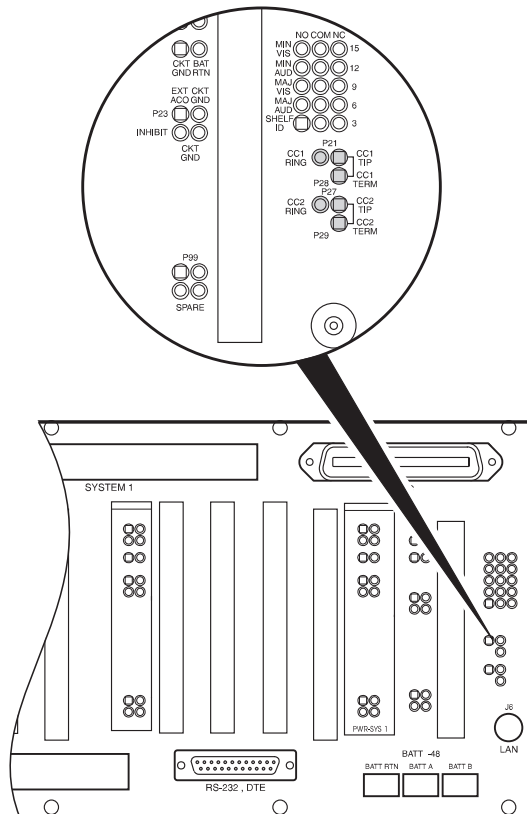

Figure 8. Connecting the Composite Clock and Alarms
- 8.5 Composite Clock.** When required for digital services, connect the composite clock (Figure 8). You can cascade the composite clock to other PG-Flex shelves.
- 8.6 Alarms.** If external audible and visual alarm indications are required, connect the audible and visual alarm leads from the CO alarm panel to the COT alarm contacts on PG-Flex according to local practice, Figure 8, and Table 12.